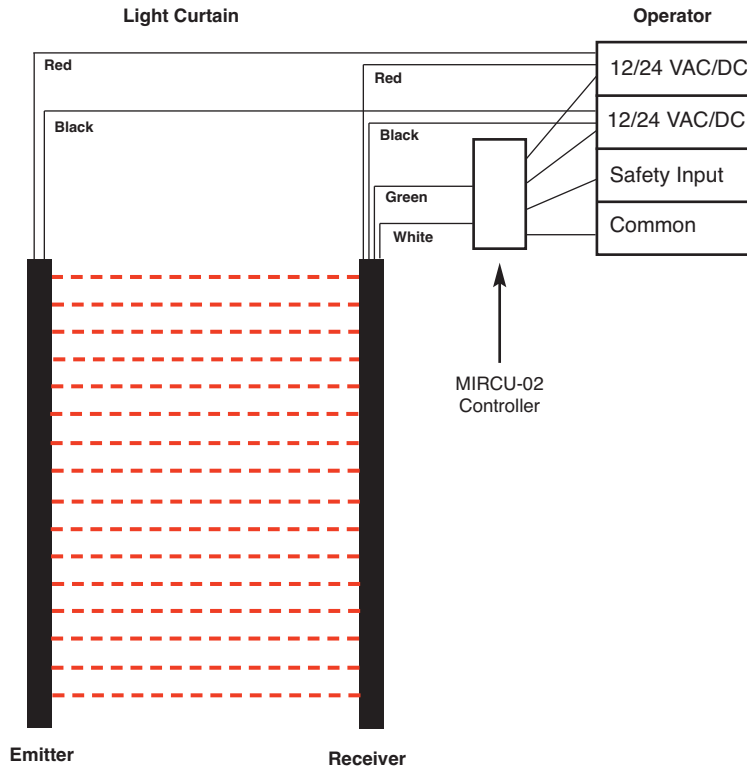

Figure 1
- 2-6. Wiring consists of connecting 12/24 VAC/DC power to the emitter, receiver and the MIRCUCU-02 controller terminals marked "AC" on TB2. Also, the green and white wire from the receiver connects to the MIRCUCU-02 at TB1. Lastly the "RLY" terminals on the MIRCUCU-02 connect to your operator's safety inputs. *See Figures 1 & 2 on back.*